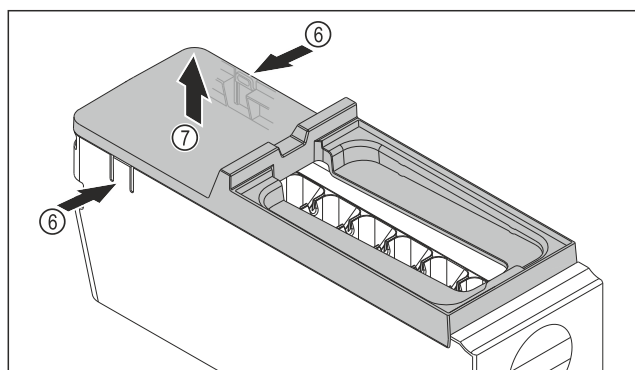

Fig. 106
- ▶ Removing the EasyTwist-Ice body cover: Push the tabs Fig. 106 (6) on both sides of the EasyTwist-Ice body with one hand.
- ▶ Use the other hand to remove the cover Fig. 106 (7) upwards.